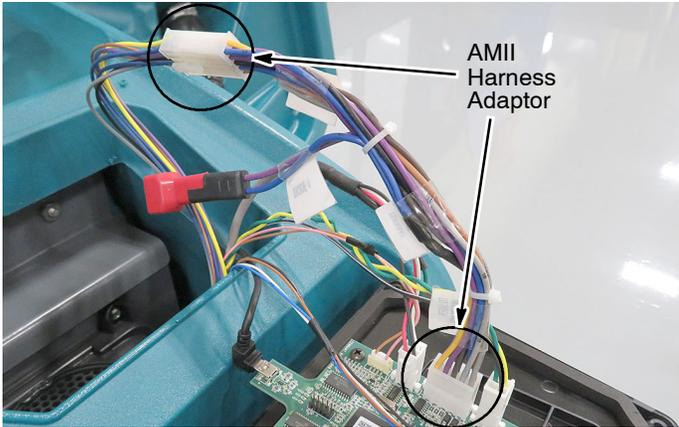

Fig. 16
11. Connect the AMII harness adaptor into the control board and into the disconnected harness connector as shown (Figure 16).